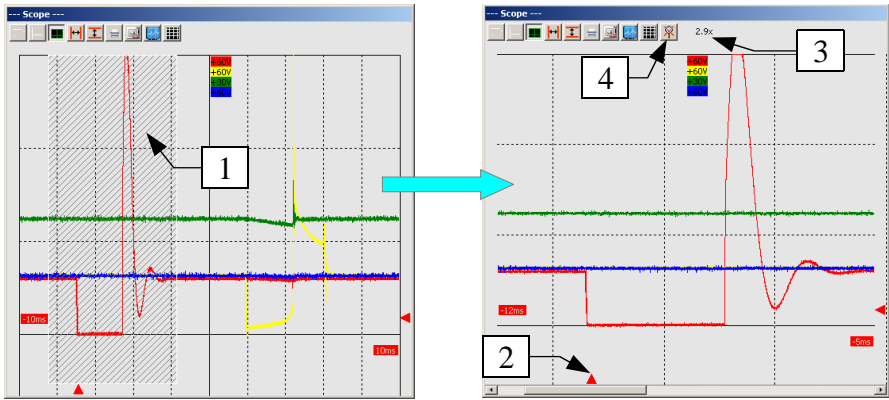

Figure 7.22
The zoom is one of the most used functions in oscilloscope records viewing. To enlarge an area, hold left mouse button and drag left or right until the desired area is marked, then release it (Figure 7.22 - 1). The smaller is the marked area, the bigger zoom. If the zoom is used, you can see a number (3) in the upper left corner of the window representing the level of zooming. In the lower part of the window there is a scrollbar which enables you to move around the waveform. To cancel the zoom, press the marked icon (4).